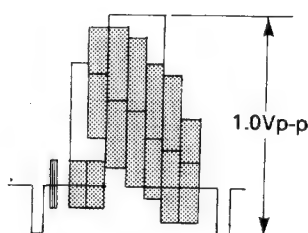

Figure 2-7
- (1) Make sure that R235 (E-E level) and R219 (Recording level) have been correctly adjusted.
- (2) Connect a 75 ohm terminating resistor to the VIDEO OUT jack and connect an oscilloscope across this resistor.
- (3) Connect a frequency counter to TP202.
- (4) Place the unit in TV mode (not in A/V input mode) and disconnect any cable from the IN FROM ANT terminal and VIDEO IN jack if connected. (No signal is fed.)
- (5) Adjust R217 so that the frequency counter reads 3.40 MHz. After this adjustment, verify that the playback Y-gain is correct since it is influenced by this adjustment. (See Step 4-7, PLAYBACK Y-GAIN adjustment)
- (6) Feed the EIA standard color bar signal to the VIDEO IN jack and adjust R215 so that the frequency counter reads 3.9 MHz.
- (7) Place the unit in A/V input mode (Select channel "00".) and feed the EIA standard color bar signal to the VIDEO IN jack. Adjust R215 so that the frequency counter reads 3.9 MHz.
- (8) Under this condition record the EIA color bar on tape, rewind and play it.
- (9) Make sure that the amplitude of the playback color bar signal recorded in Step (7) is measured 1.0 ± 0.04 Vp-p on the oscilloscope as shown in Figure 2-7. If it is out of specified value, finely adjust R215 and repeat from Step (7).